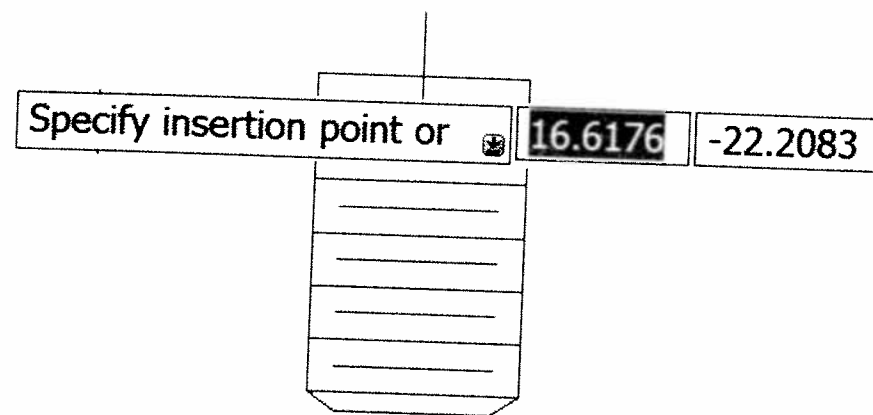

Figure 6-10a
- The prompt shown in Figure 6-10a will appear on the screen. The block will appear on the screen with its insertion (base point in the block creation process) point aligned with the cursor. The block will move with the cursor.